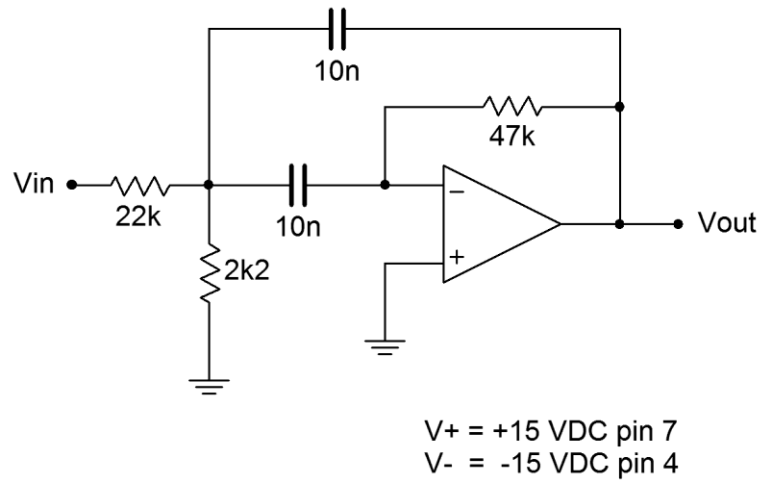

Figure 1
1. The circuit of Figure 1 is a second order band pass filter. Calculate and record the center frequency (f_0) and mid-band voltage gain in Table 1.
2. Assemble the circuit of Figure 1 using the medium speed op amp.
8. Build the circuit of Figure 1 in Multisim and run an AC Analysis. Be sure to run the plot from 10 Hz to approximately 100 kHz and use a decibel scale for the gain amplitude. Compare the plot to the graph generated from Table 2.